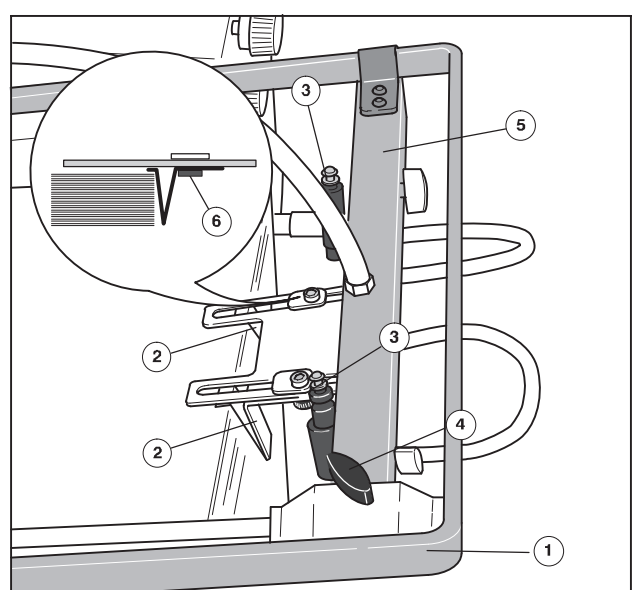

Fig. 7 Pile frame
The pile frame (Fig. 7/1) supports the rear sheet stops (Fig. 7/2) and the rear edge blowers (Fig. 7/3).
1. After you have inserted the printing material, swing down the pile frame (Fig. 7/1).
2. Slacken the tommy bar screw (Fig. 7/4) and push the guide piece (Fig. 7/5) towards the rear sheet edge until the sheet stops (Fig. 7/2) just touch the rear pile edge. The paper must not be jolted.
3. Tighten the tommy bar screw (Fig. 7/4).
4. It is only necessary to position the sheet stops (Fig. 7/2) further forwards when processing small sheet sizes. To do so, slacken the knurled head screws (Fig. 7/6) on the underside of the mounting supports.
5. Retighten both knurled head screws (Fig. 7/6).